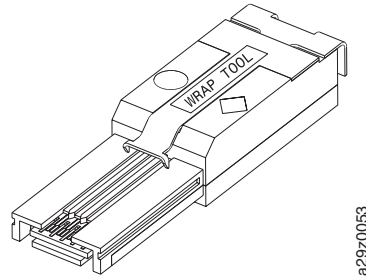

Figure 4-28. SAS wrap tool
- SAS Wrap Test** — Runs tests on the SAS interface SCSI controller. Remove the SAS cable from the library and insert the SAS wrap tool (see Figure 4-28 on